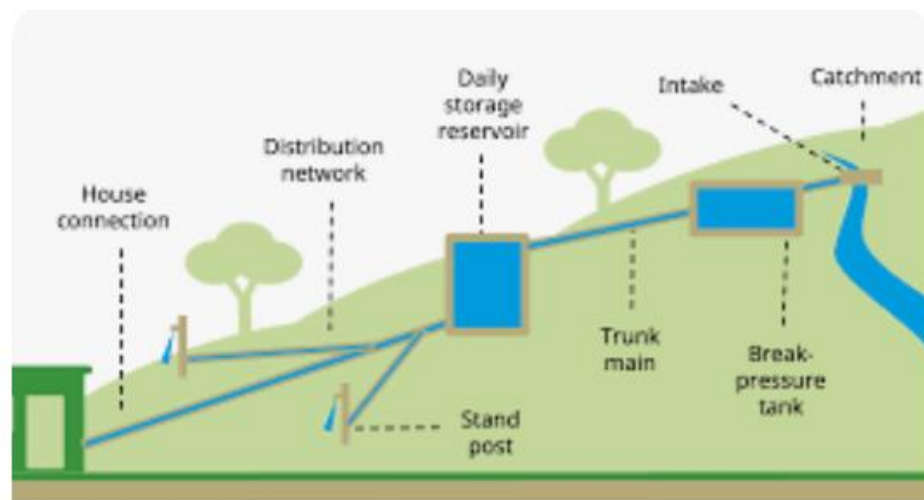

Figure 16. Gravity-Based System
- **Description:** Water is transported using gravity (figure 16), without the need for pumps or external energy input.